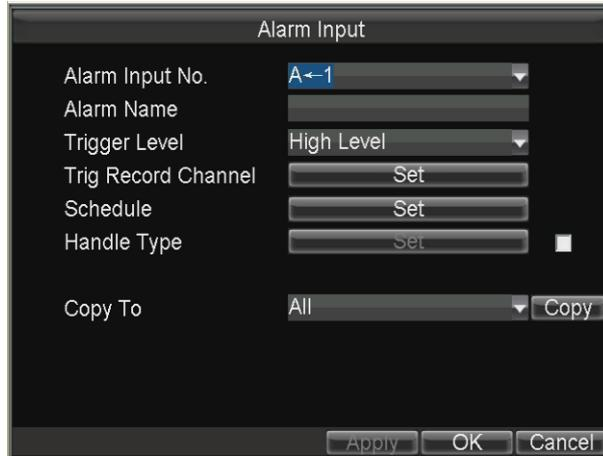

Figure 3.5 Alarm Input Settings
1. Enter the Alarm Input settings interface, as shown in Figure 3.5.